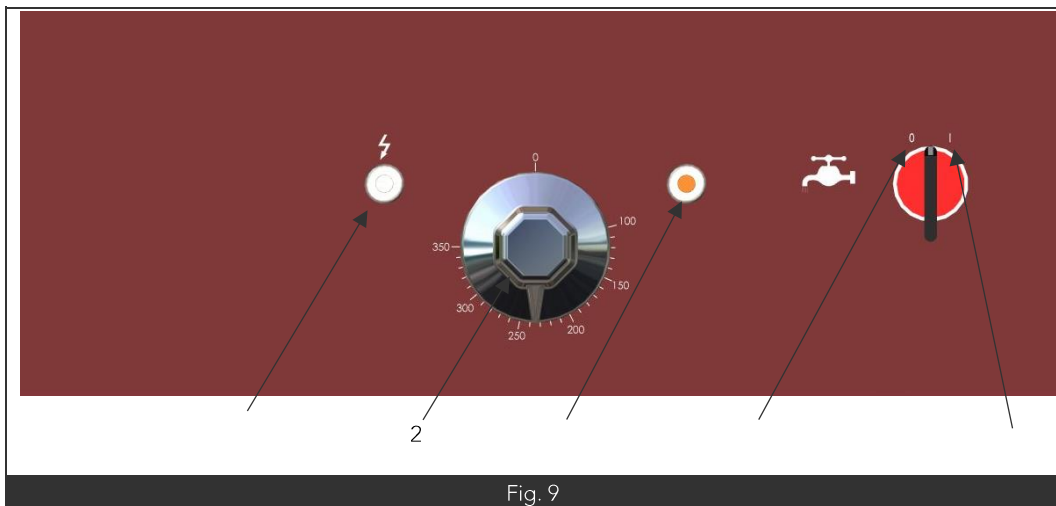

Fig. 9
- With the appliance switched on, the white light is on (Fig. 9 Item 1).
- Move the run-off switch to the On position (Fig. 9 Item 5) to circulate water through the groove around the edge.
- Adjust the temperature of the thermostat using the electric control knob (Fig. 9 Item 2).
- The amber light comes on to indicate that the heating elements are heating (Fig. 9 Item 3) and goes off when they have reached the desired temperature.
- To stop the water run-off, turn the run-off switch to the Off position (Fig.9 Item 4).